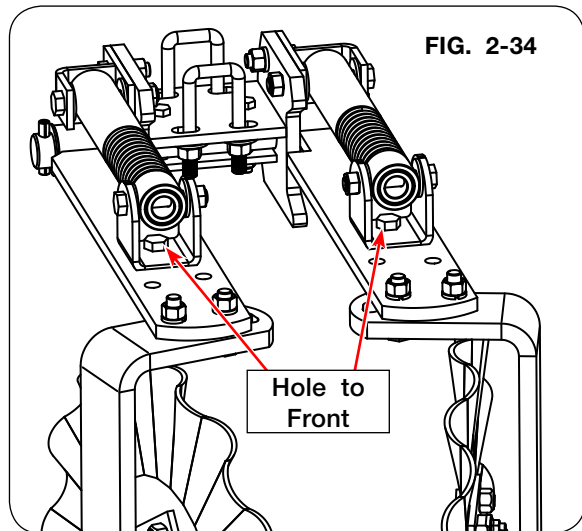

FIG. 2-34
2. Mount the sealer spring clevis lower (JAM2489) to arm with clevis hole to the front (FIG. 2-34). Loosely attach with 1/2"-13UNC x 1 1/2" capscrews (9390-101), 1/2" lock washer (9404-025) and 1/2"-13UNC hex nut (9394-010).